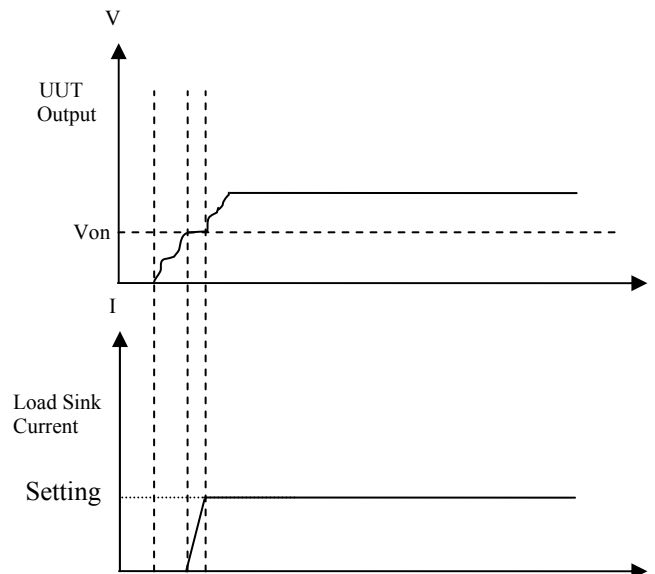

Figure 3-16 When Von Point is set to 0V with Protection
- (2) When it is “LOAD ON”, VON POINT is set to 0V and Von Protection is enabled, the DC Load starts loading when the external voltage exceeds the protection voltage. No overshoot will occur under this condition as Figure 3-16 shows.